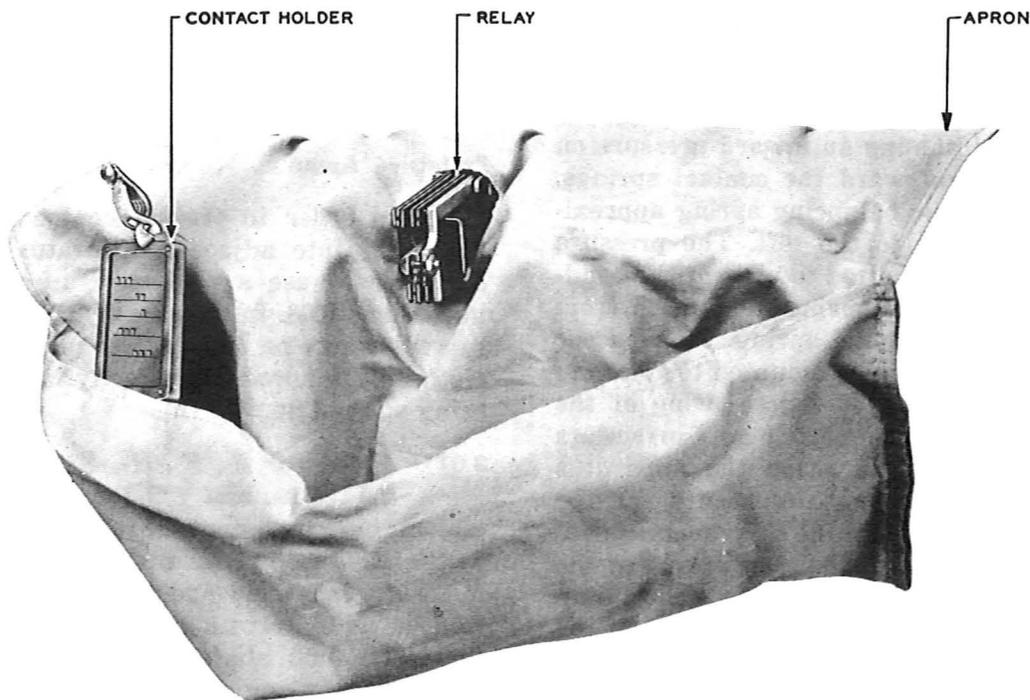

Fig. 1 – Apron and Contact Holder in Working Position
**3.07 *Apron for E-, F-, H-, M-, R-, T-, U-, Y-, EA-, UA-, and UB-Type Relays:*** Before replacing contacts on these relays, make an apron with a KS-14666 cloth in the following manner. Make a 6-inch fold and stitch the sides of the fold so as to form a pocket the full width of the cloth. Just above the pocket at about the center of the apron, cut a hole which, after turning back the edges and hemming to prevent unravelling, will finish to a size of about 1-1/4 inches square, as shown in Fig. 1.
**3.09** Place the apron over the apparatus on which the contacts are to be replaced as shown in Fig. 1, and adjust the apron so that the contacts that are removed will fall into it. Clip the plastic holder on which the contacts are furnished to the apron or other convenient support adjacent to the apparatus being worked on. Fig. 1 shows the holder clipped to the apron.